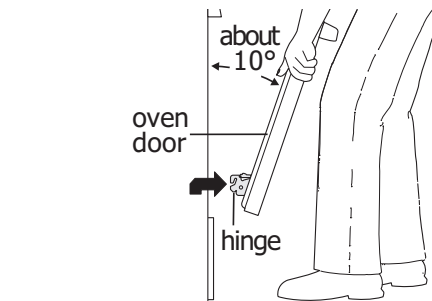

Figure 29: Holding door for removal
2. Pull the door hinge locks on both left and right door hinges down from the oven frame completely towards the oven door (See Figure 29). A tool such as a small flat-blade screwdriver may be required.
4. Push the door hinge locks up towards and into the oven frame on both left and right oven door hinges to the locked position (See Figure 29).